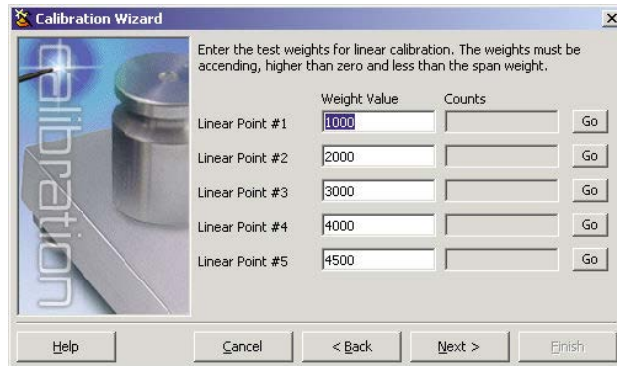

Figure 5-8. iRev Linear Calibration Display
- When performing a multi-point linear calibration, up to five other calibration weight values can be entered on the display in Figure 5-8. The weights must be in ascending order and must not include zero or the span weight. Enter the weight values and select **Go** to calibrate each point.